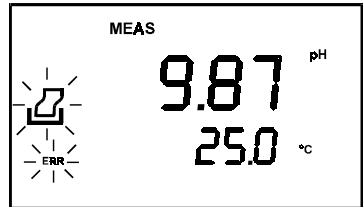

Figure 14: Error in printing
2. If the [PRINT] key is pressed while the printer is not ready or if the printer is off, the CyberScan pH 100 meter displays error message by showing both the printer and the ERR annunciators blinking alternately, and awaits the printer to be ready (Figure 14).